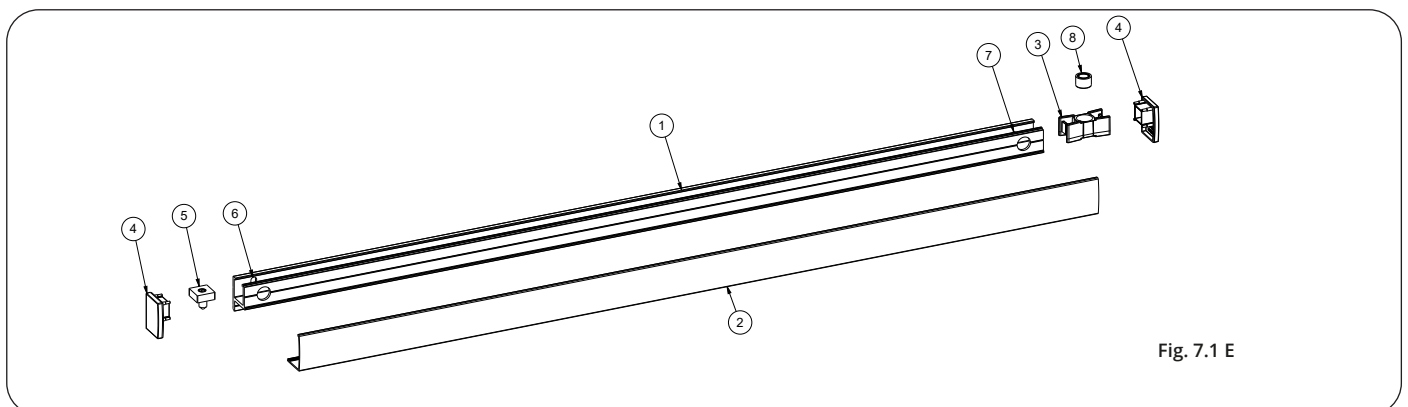

Fig. 7.1 E
SLIDING GUIDE FOR PULL ARM (FIG. 7.1 E)
- Fix the sliding guide (1) on the leaf through the holes (6-7), following the dimensions indicated in the technical drawings (fig. 7.1 A/B/C)
- Insert the conical joint (8) in the sliding block (3) respecting the taper
- Insert the runner (3) for the pull arm tapered pin inside the sliding guide.
- Insert the striker (5) inside the sliding guide and fix it in the end of stroke opening position using the dowel.
- Position the cover casing (2) on the sliding guide (1).
- Insert the two side panels (4) on the ends of the sliding guide